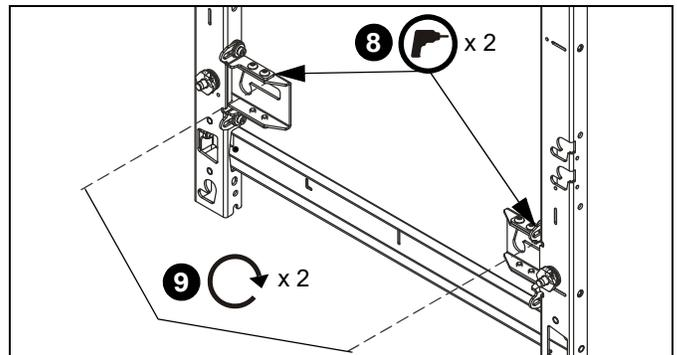

Figure 10
- Drill lower pilot holes (see Table 1 for size) at attachment locations and follow fastener information (appropriate for wall type) located in Table 1. (See Figure 10)
- Install two fasteners through lower part of mount and tighten. (See Figure 10)